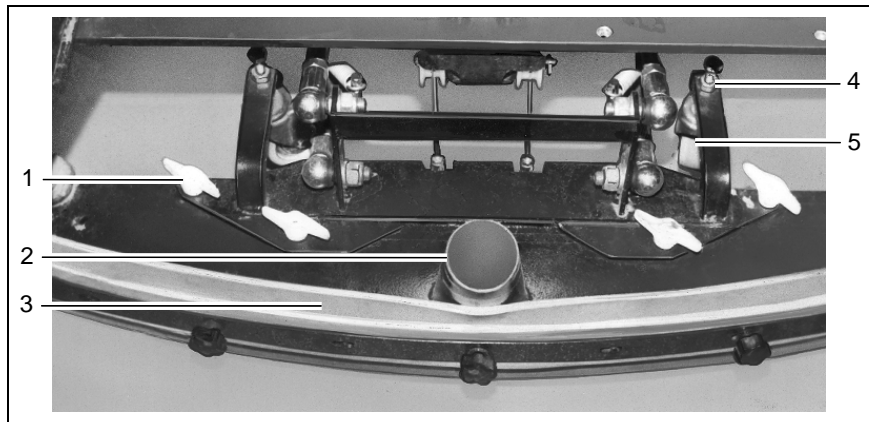

Fig. 8
5. Slide the squeegee from the rear under the lowered holding attachment and fix the squeegee to it with the four wing nuts (Fig. 8/1).
6. Attach the suction hose to the connection nozzle (Fig. 8/2) of the
The squeegee must be set up on a level floor according to the conditions in which it is to be used. The squeegee must stand vertically on the floor (adjusted at the factory). The sealing strip (Fig. 8/3) should bend slightly to the rear when the vehicle is in operation. Support rollers (Fig. 8/5) limit its movement toward the floor. These support rollers must be adjusted in order to raise the contact surface of the squeegee:
- Loosen the counter nuts (Fig. 8/4) and raise the support rollers on the left and right evenly (turn screw counterclockwise and lock again).